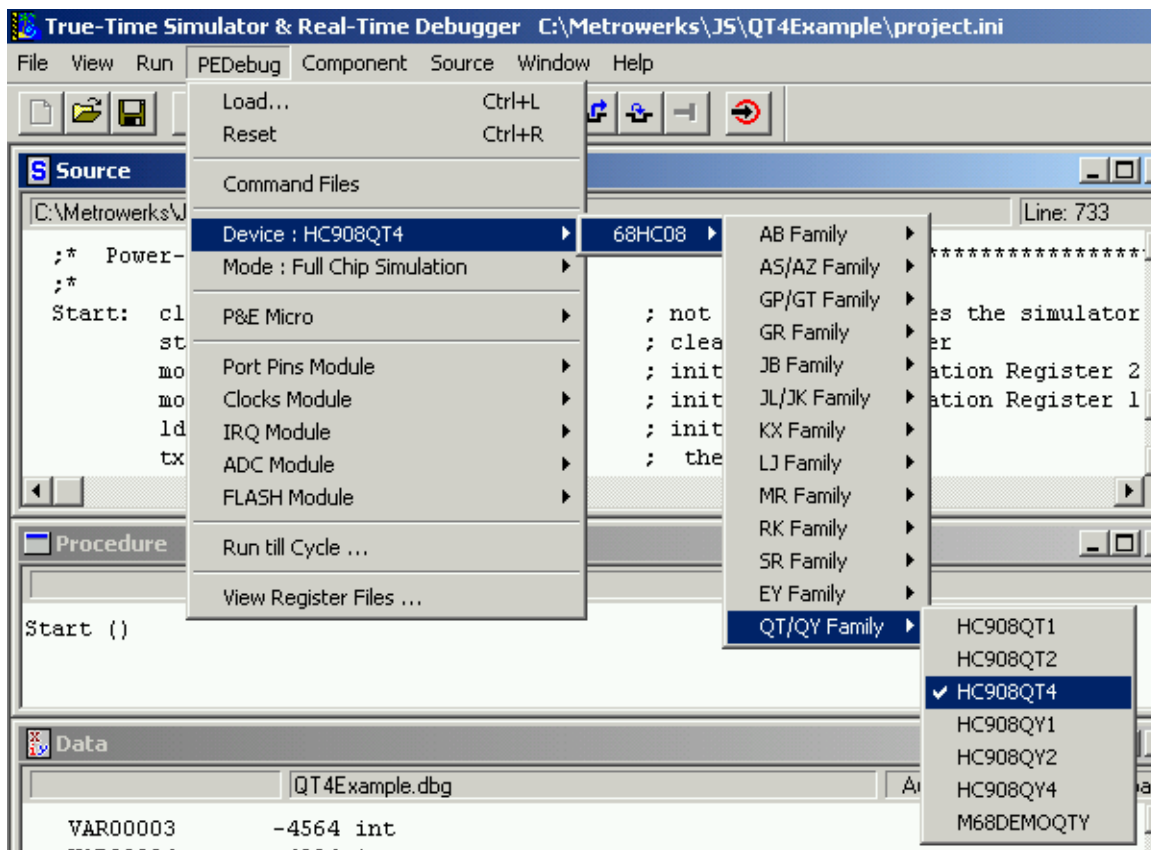

Figure 16. PEDebug Pulldown Menu
5. Select the PEDebug pulldown menu and navigate to the appropriate device as shown in **Figure 16**.